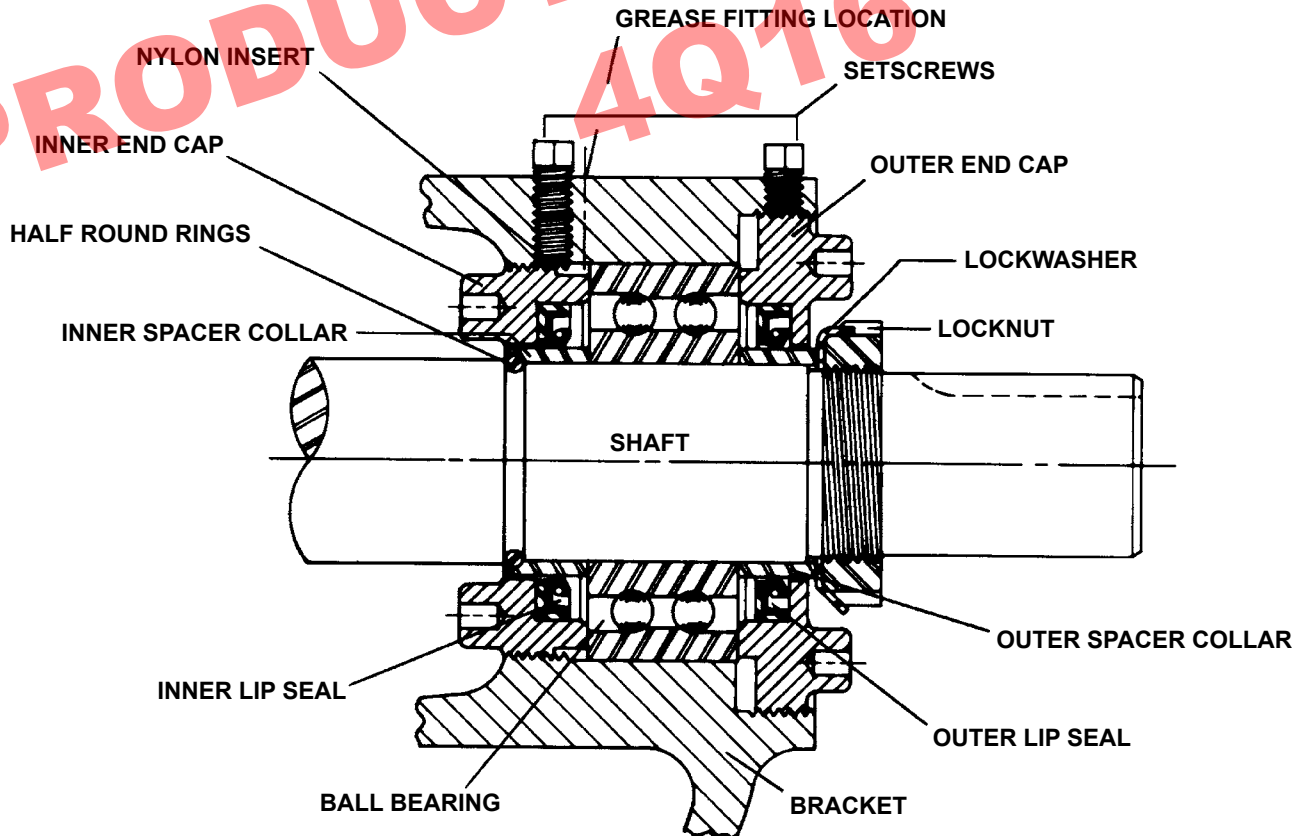

FIGURE 4
5. Tap the shaft forward approximately ½ inch and check for a pair of half circle, round wire rings under the inner bearing spacer collar. **See Figure 4.**
8. Loosen the four setscrews over the inner and outer end caps. Remove both end caps, lip seals and bearing spacer collars. **See Figure 4.**
Place the pair of half round rings (not used on Q, QS and M) in the shaft and slide the inner spacer collar over them. **See Figure 4.**
NOTE: The end cap must be turned so far that the lip of the seal drops off the end of the spacer collar on the shaft or the end cap becomes disengaged with the threads. **See Figure 4.**
10. Install the lip seal (lip toward end of shaft) and bearing spacer in the outer end cap and turn the end cap into the bracket until tight against the bearing. **See Figure 4.**
11. Put lockwasher and locknut on shaft. Insert length of hardwood or brass through port opening between rotor teeth to keep shaft from turning. Tighten locknut to 120-150 ft.– lbs. Torque (LS) or 170-190 ft. – lbs. Torque (Q, QS, M). Bend one tang of lockwasher into slot of locknut. If tang does not line up with slot, tighten locknut until it does. Failure to tighten locknut or engage lockwasher tang could result in early bearing failure and cause damage to rest of pump. Remove length of hardwood or brass from port opening.